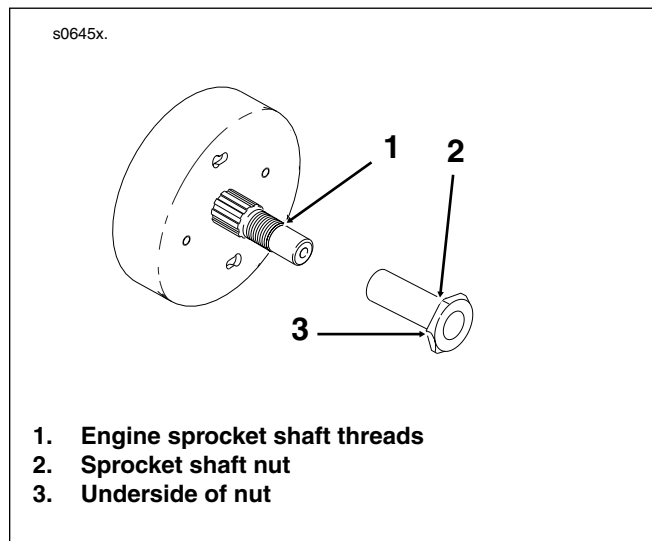

Figure 1. Compensating Sprocket Preassembly
1. See Figure 1. Before installing the clutch, primary chain, compensating sprocket and shaft extension assembly do the following:
- a. Clean threads on engine sprocket shaft (1) and internal threads in sprocket nut (2) with LOCTITE 7649 CLEANER/PRIMER, Part No. 98968-99.